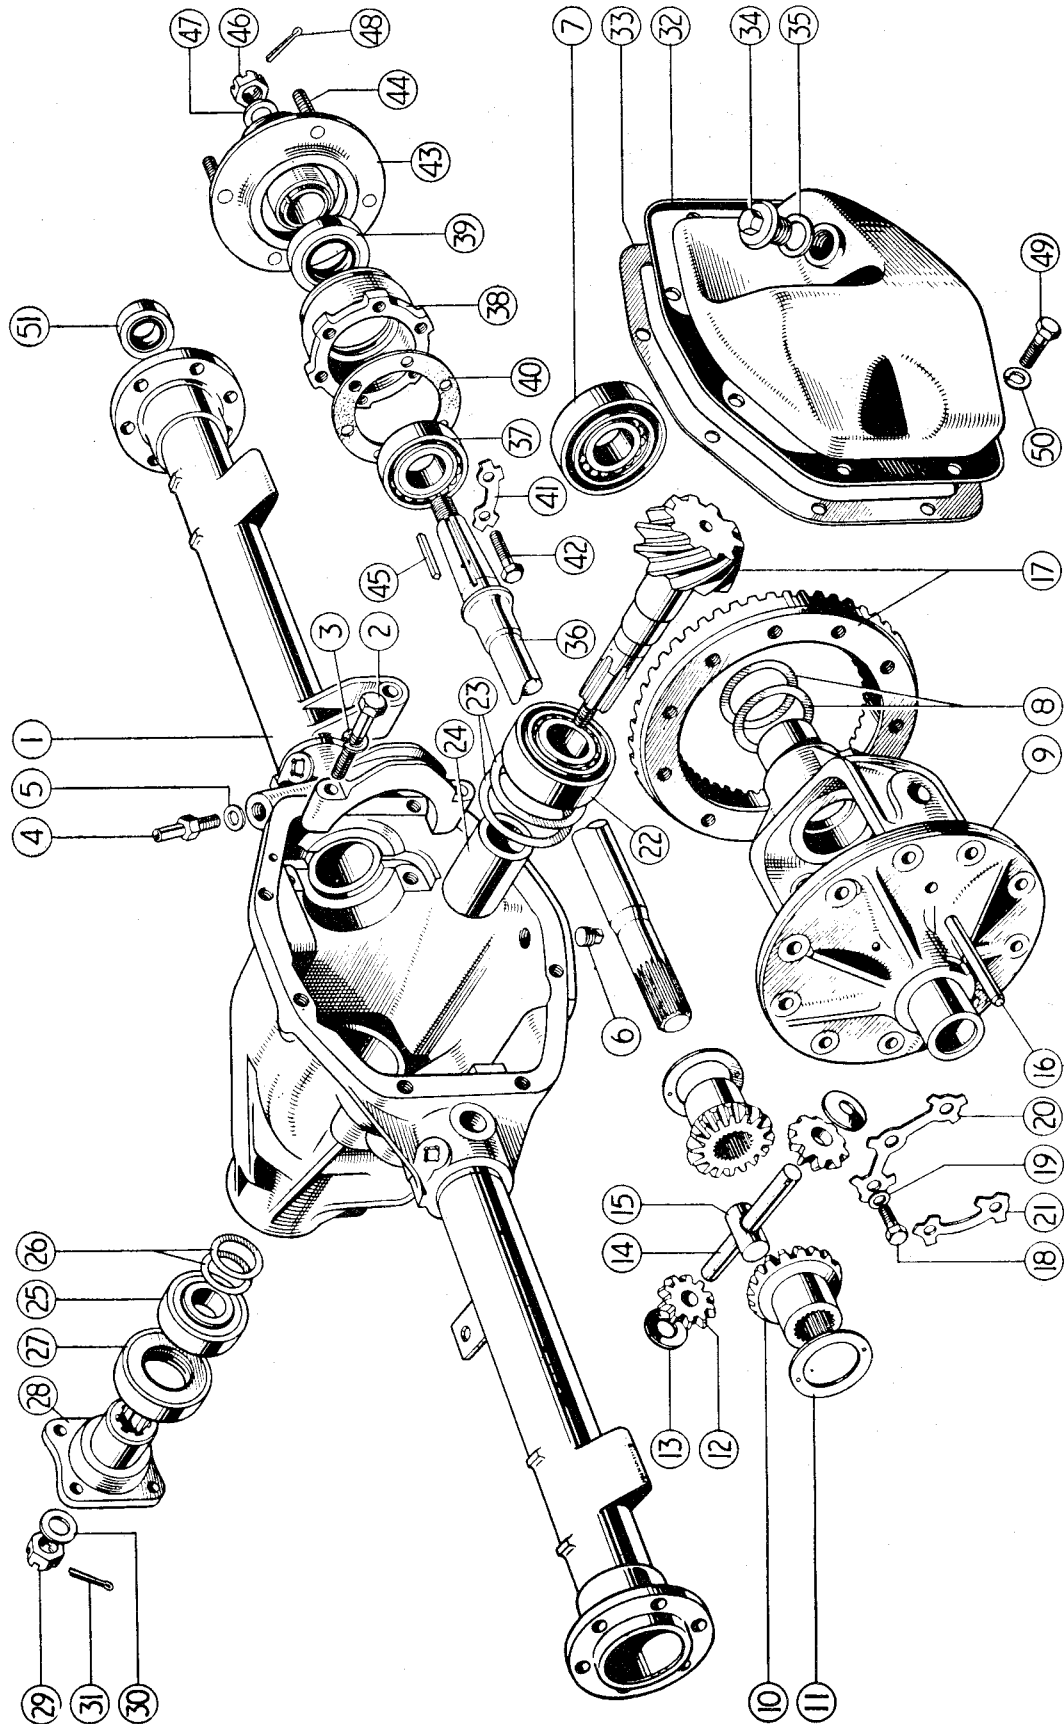

Fig. 13
Except for the addition of a thrust block (item 15, Fig. 13), the crown wheel and pinion assemblies remain the same as fitted to the previous axle. Therefore, instructions for the servicing and adjustment of these assemblies are unaltered.
#### NOTATION FOR EXPLODED ARRANGEMENT OF REAR AXLE (Fig. 13)